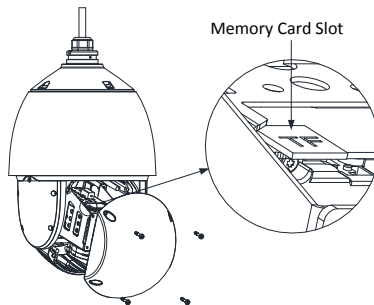

Figure 2-8 Memory Card Slot
5. Refer to Figure 2-8 for memory card slot of PTZIP772 series speed dome.